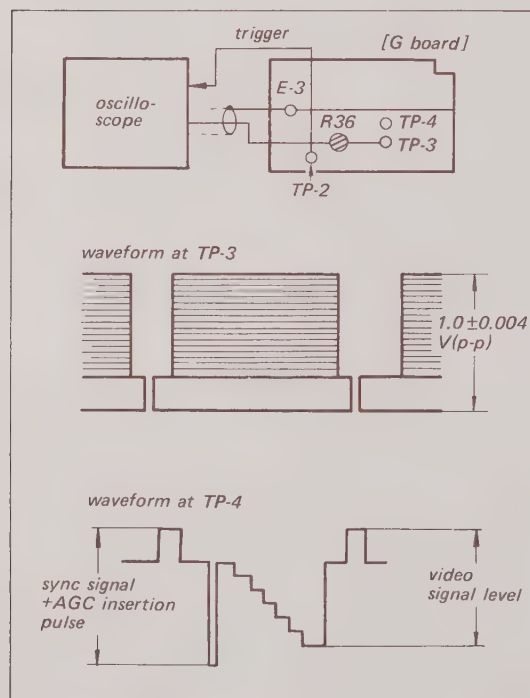

Fig. 8-21. Luminance AGC level
1. Connect the scope probe to TP-3 on the G board. Trigger the scope from TP-2 or use interval sync. See Fig. 8-21.
3. Adjust R36 for a level at TP-3 to 1.0V (p-p). See Fig. 8-21.